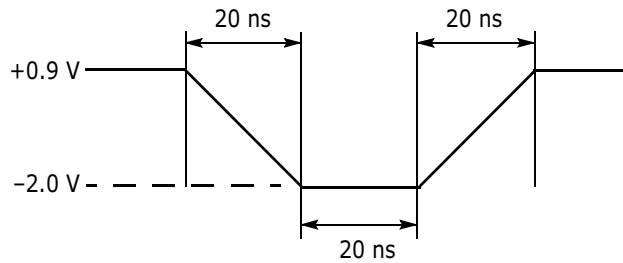
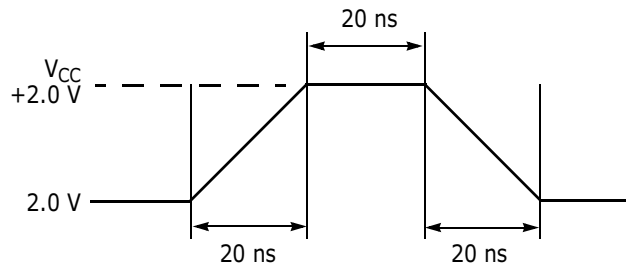

Figure 76. Maximum Negative Overshoot Waveform
Figure 77. Maximum Positive Overshoot Waveform
1. Minimum DC voltage on input or I/Os is -0.5 V. During voltage transitions, input at I/Os may undershoot V_{SS} to -2.0 V for periods of up to 20 ns during voltage transitions inputs might overshoot to $V_{CC} + 0.5$ V for periods up to 20 ns. See Figure 76. Maximum DC voltage on output and I/Os is $V_{CC} + 0.5$ V. During voltage transitions outputs may overshoot to $V_{CC} + 2.0$ V for periods up to 20 ns. See Figure 77.
2. Minimum DC input voltage on V_{PP} is -0.5 V. During voltage transitions, V_{PP} may undershoot V_{SS} to -2.0 V for periods of up to 20 ns. See Figure 76. Maximum DC input voltage on V_{PP} is +9.5 V which may overshoot to +10.5 V for periods up to 20 ns.